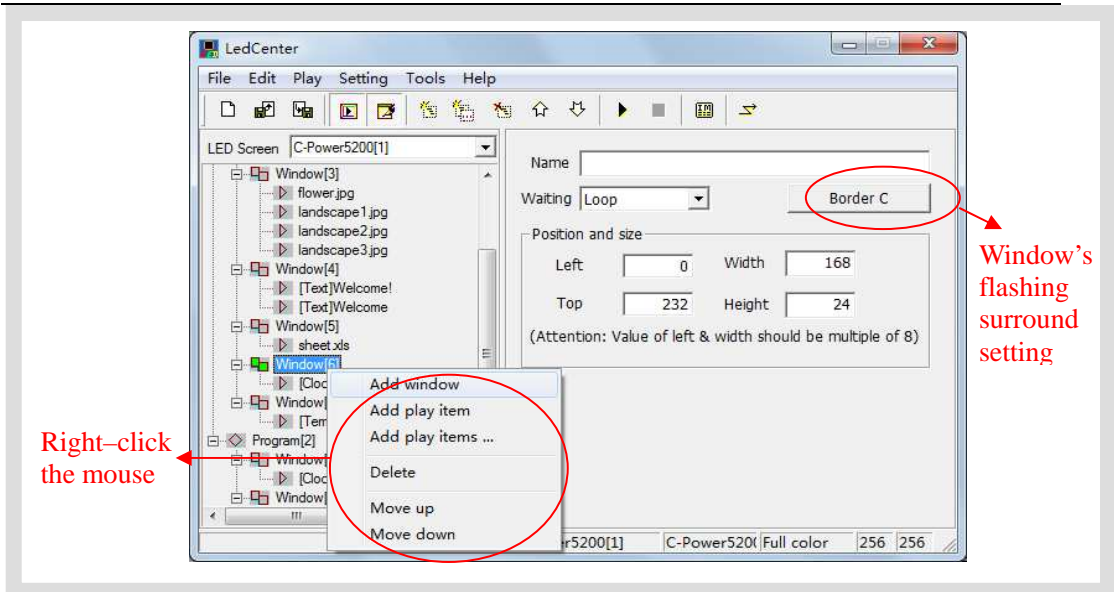
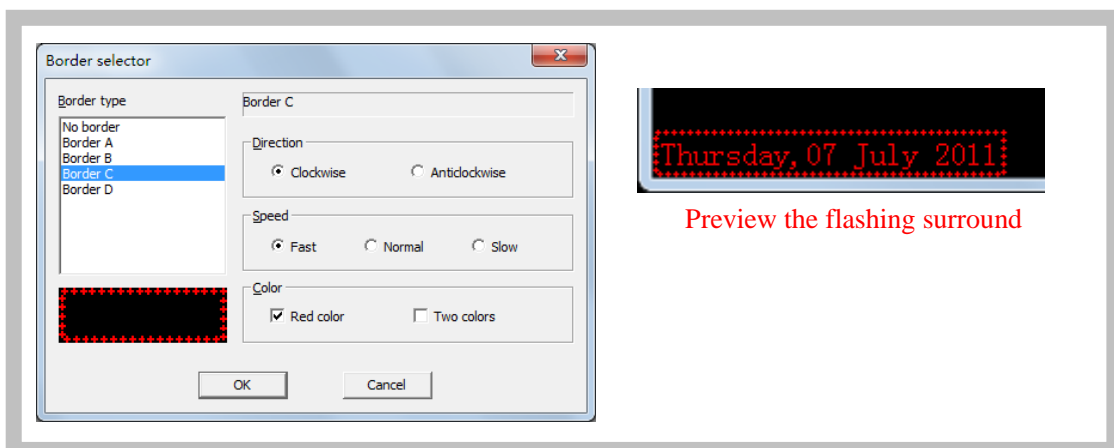

Figure15 Window management
Figure16 Flashing surround setting
Method 4 (recommended): right click a **program** or a **window** in playbill (at the left side of the console); select right shortcut in the pull down menu, as shown in Figure15.
When the **window** is selected, the attribute box at the left side will show its attribute, see Figure15. The following items can be set:
- Flashing surround: click the button of flashing surround setting (see Figure15), the "Border selector" pops up, as Figure16 shown. Add and select the surround's type. Every window can set the flashing surround to highlight the window's content.